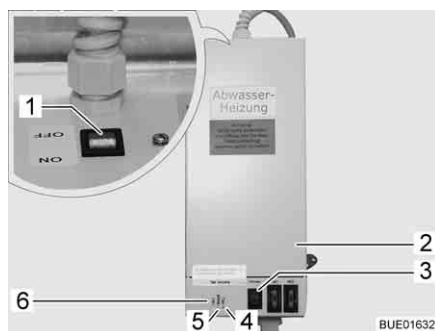

Fig. 241 Transformer with control unit
The 230 V AC/12 V DC transformer (Fig. 241,2) is installed in the wardrobe or in the storage area beneath the seating group, depending on the model.
- Indicator lamp (Fig. 241,5) lights up in green: Regulator in operation.
- Indicator lamps (Fig. 241,4 and 6) light up in red: Waste water pipes are warmed.
A test button (Fig. 241,3) is integrated in the housing with which the control unit can be operated for a short time. By pressing the test button, the function of the warming unit can be tested, even if the ambient temperature is above 5 °C.
- Turn switch (Fig. 241,1) on the transformer (Fig. 241,2) to "ON".
- Turn switch (Fig. 241,1) on the transformer (Fig. 241,2) to "OFF".